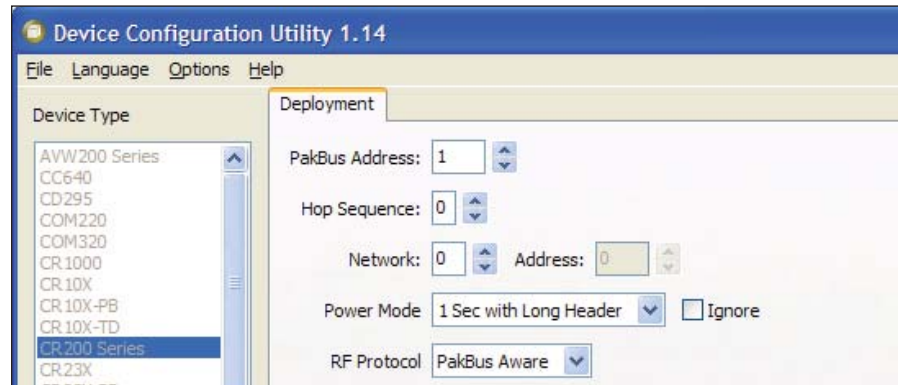

Figure 6: DevConfig Deployment panel for CR206(X) Example Setup 2
CR206(X) Example Setup 2 (see Figure 6)